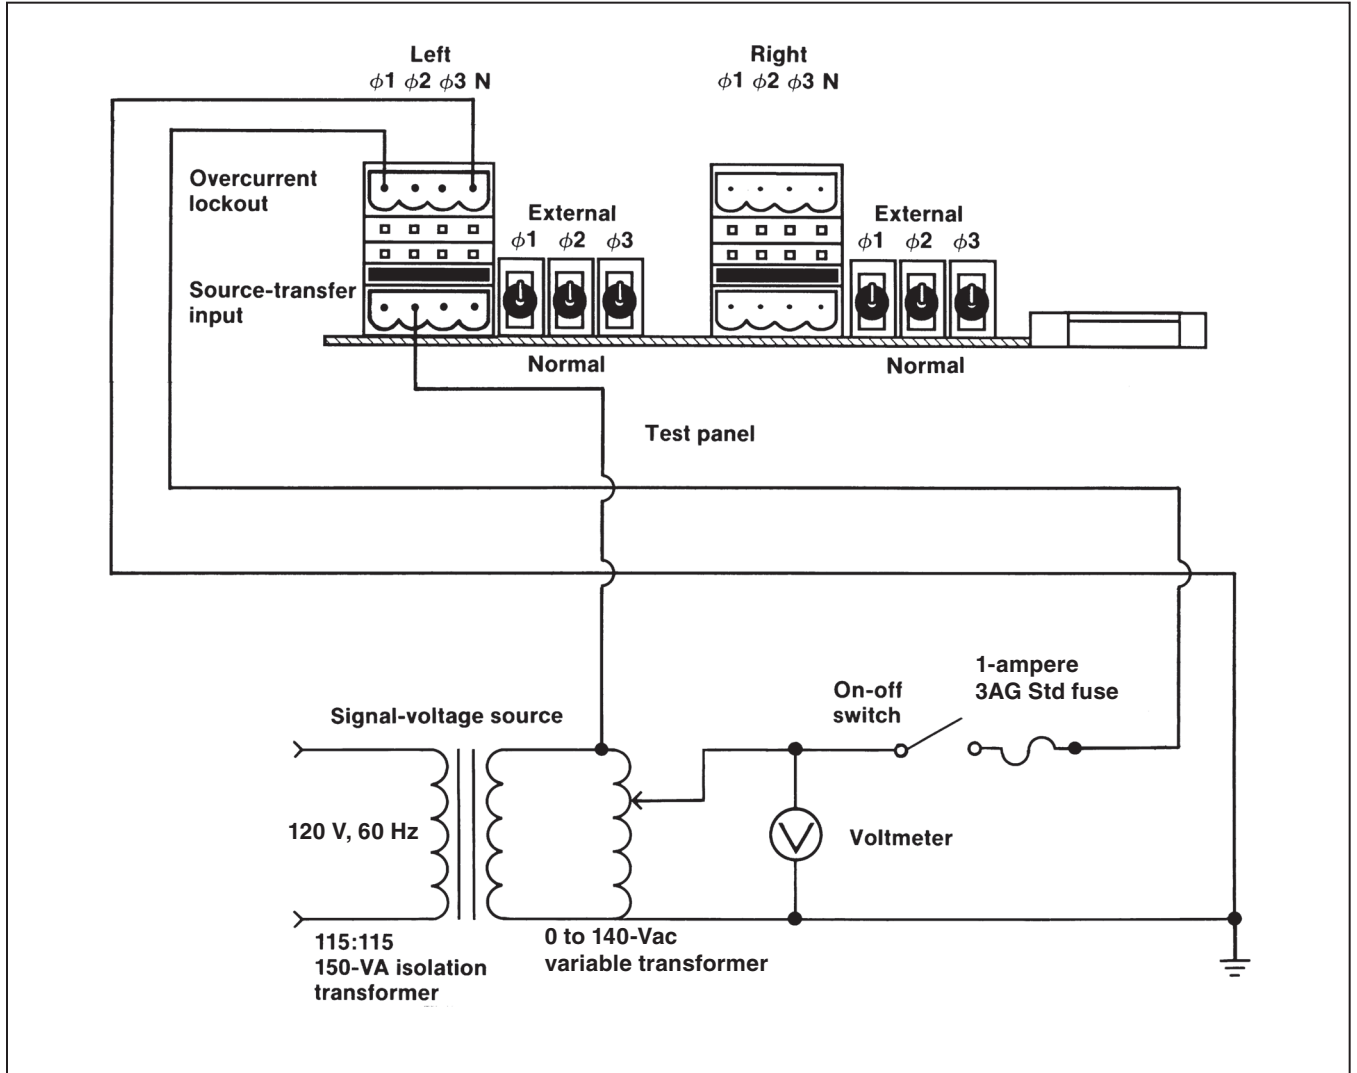

Figure 4. An overcurrent-lockout test-circuit connection diagram for metal-enclosed switchgear applications.
STEP 27. Make up the test circuit connections to Phase 1 and neutral on the left overcurrent-lockout connector and to Phase 2 on the left source-transfer input connector as shown in Figure 4 on page 11.